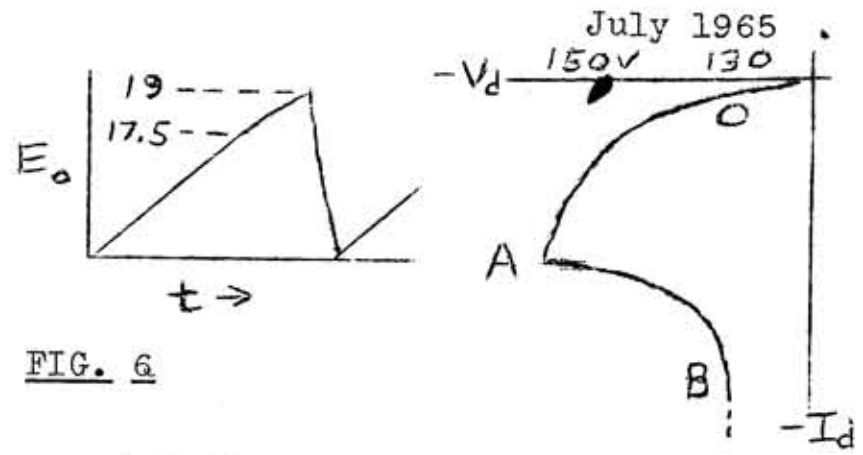
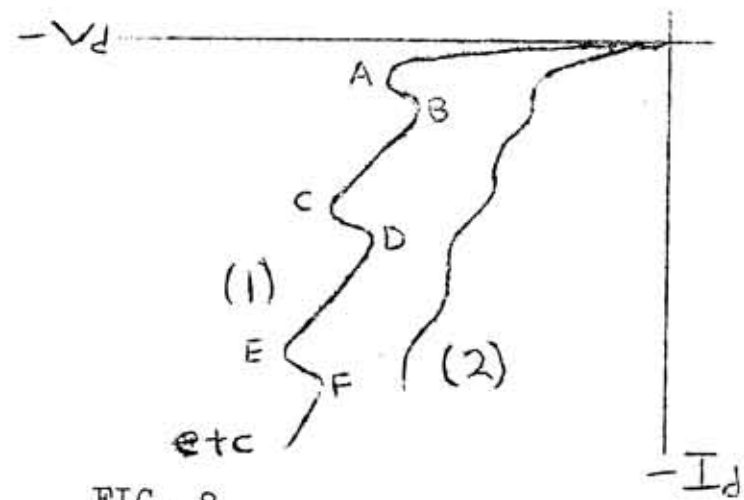
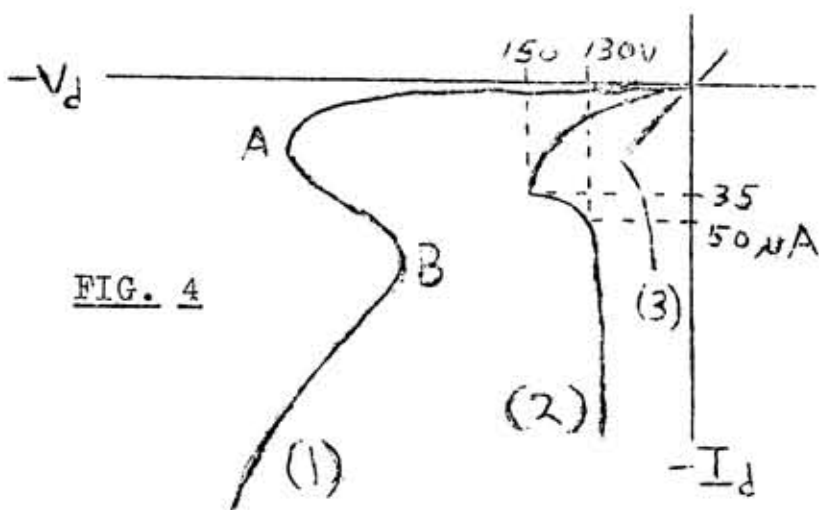
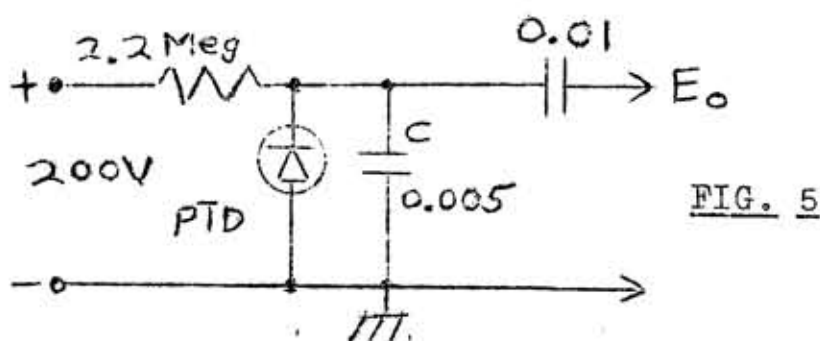

FIG. 6
FIG. 8
FIG. 4
FIG. 5
Occasionally we also noticed that the signal sent to the radio (placed near the power supply) produced not only a hiss, but also a squeel or whistle. In every instance of this sort, the reverse characteristic was of the 'Pseudo Tunnel' type, described by one of us in the April 1965 issue of the EEB; the characteristics of a typical Pseudo Tunnel curves are shown in Fig. 4. It is likely that a relaxation oscillator of some type was set up between the diode operating on the negative slope of the characteristic (AB), and the distributed capacity and circuit resistances. Again it is difficult to explain how the pseudo-tunnel characteristic could function at RF frequencies when the maximum usable frequency of an oscillator employing a PTD was not over about 100Kc/s. It is possible that the PTD was oscillating at a lower frequency, and modulating the white noise signal. If we had time, we could undoubtedly devote a research project to problems of this kind!
This spontaneous behaviour of the PTD suggested that the negative resistance property of the diode would sustain oscillation in an R/C relaxation type oscillator, and such was the case. Fig. 5 was the basic configuration used. The actual shape of the PTD characteristic did in fact vary from one diode to another, with interesting consequences. The PTD having the curve No. 2 of Fig. 4, in the circuit of Fig. 5 oscillated from 10cps to 450cps, depending on R and C (3.3Meg/0.01 μ F and 1Meg/0.0047 μ F, respectively); a lower frequency could be obtained, but it seemed to be unstable, possibly owing to heating of the diode in the breakdown mode. An expanded detail of the waveform, and the resulting oscilloscope oscillation waveform are shown in Fig. 6. In region OA, the condenser charges to 150V, and in region AB it discharges to 130V, whence it starts again to charge. The result is the quite remarkable one of a linear sawtooth-type wave, as shown, to about 17.5V, and a relatively sharply bent portion from 17.5V to 19V. It appears that the shape of the exponential PTD charge region just balances the exponential charge characteristic off the condenser, the result being a linear waveform. No doubt a suitable simple discriminator (ie, threshold) circuit could be employed to put this oscillator to use to produce a CRO time base. Curve 3 of Fig. 4 gave a triangular wave (not shown) of amplitude 10V.... One of us thinks that the PTD of Curve 2 (Fig. 4) might be used to drive
From time to time after testing a large number of diodes, we came across types showing the characteristic of Fig. 8, in which there could be as many as five different inflection points (ie, the curve changes its direction), some going definitely negative as in Curve 1, others only partly so as shown by Curve 2. The lowest inflection point might occur around $10\mu\text{A}$, and the highest at perhaps $800\mu\text{A}$. It is interesting that at each turnover point the diode thinks that it is going into a simple sharp zener-type slope, and a vigorous white noise hiss is produced, which either fades out as current is advanced, or becomes modulated by circuit relaxation (as described above), when the current is passed through the negative slope region. In the case of poorly defined negative slope regions (eg. Curve 2 of Fig. 8), it is possible to hear multiple hiss regions as diode reverse current is increased, even though the negative slope can not be seen as a change in the $-V_d$ reading. It is still a negative slope, however, because it is a deviation from a positive one... We can understand why a simple reversible temperature breakdown characteristic could occur (eg. Fig. 4) ((cf. 'Diodes and Transistors,' by G. Fontaine, publ. Philips)) at the turnover point, but why several of them as the reverse current is increased? Do any of you engineers out there know?